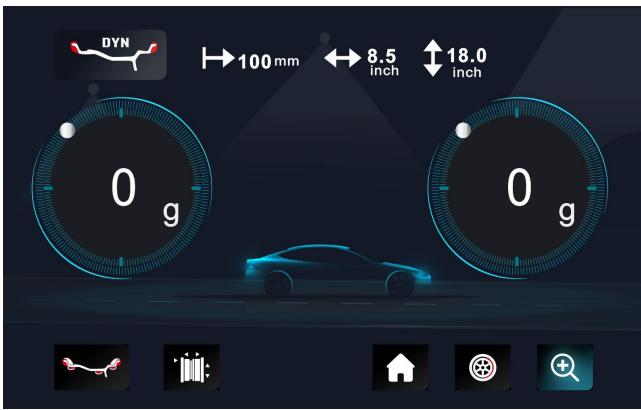

Fig. 5
4.1.8. After finishing clipping the counterweights, put down the guard and press , to perform balancing spin again, if comes out 00 00, means balancing succeed. (Fig.5)